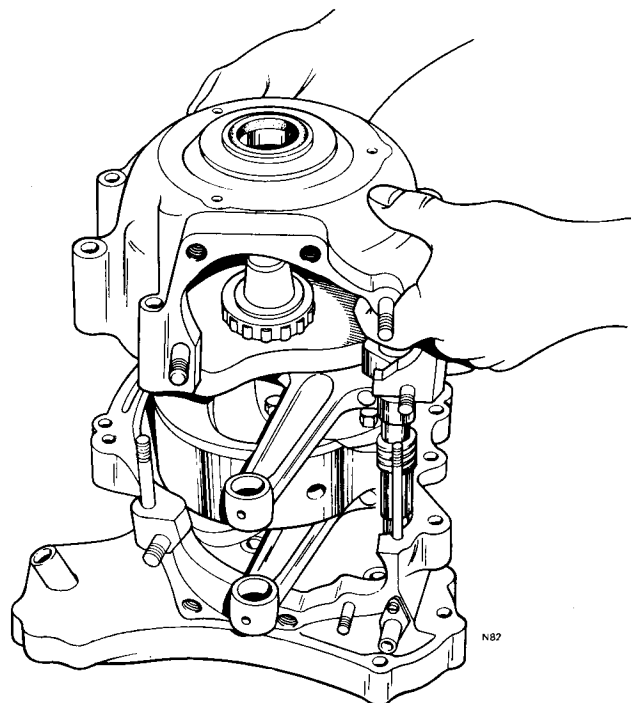

Fig. C36 Mating crankcases. Note the camshaft is held against the spring and disc with the finger
- 6 Offer the drive side crankcase to the timing side after oiling the camshaft bearing area and the drive side roller main bearing. The operation of mating the crankcases is shown in *Fig. C36*. It will be noted that the camshaft is held in position against the breather disc and spring with one finger during this operation before 200000. Ensure that washer tabs are seated throughout this operation until cases are mated. It is most important that the drive side connecting rod does not come into contact with the crankcase mouth and at the final stage of mating the crankcases, it may well be necessary to turn the tachometer drive to locate into the camshaft worm drive.